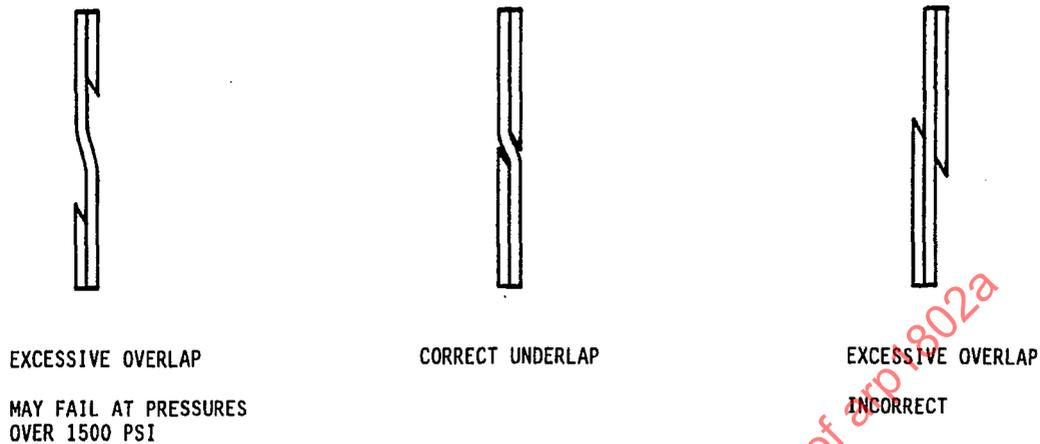

FIGURE 8 - Underlap of Backup Rings
5.2.2 Spiral backup rings can be used in the field on nonstandard diameters. Spiral backup rings are readily sized on installation by clipping the ends to correct for overlap. Therefore, an oversized ring can be "fitted" when the exact diameter ring, to match the gland, is not available. Spacing of the end should be controlled to minimize the gap. Correct underlap shown in Figure 8 is required above 1500 psi.